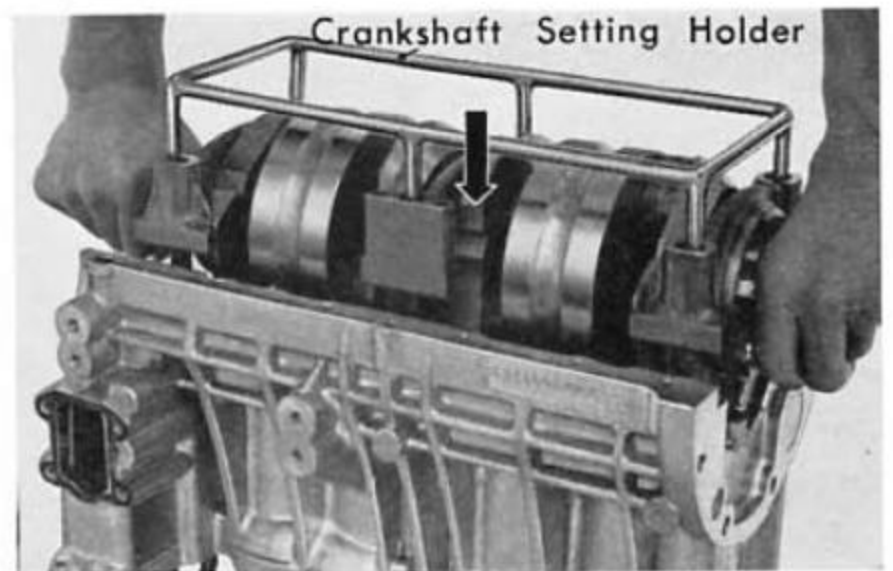

Fig. 1L-24
7. Initially install the crankshaft temporarily, and then follow by final torquing (Fig. 1L-25). Check the rotation of the crankshaft to make sure that the rotation is smooth without any binding in the holders.